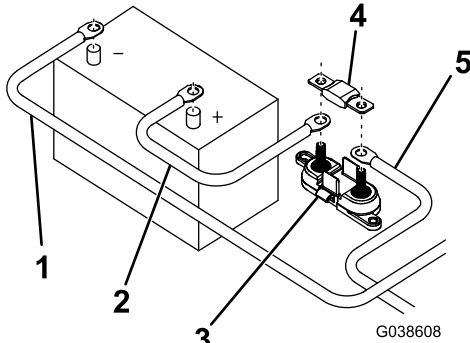

Figure 2
7. Connect the black power/ground extension cable to the negative (-) battery terminal (Figure 2).
12. Attach the fuse holder within 50 cm (20 inches) of the vehicle battery (Figure 2).
13. Connect the free end of the long battery extension cable to the fuse holder (Figure 2).
14. Connect the short battery extension cable to the other stud on the fuse holder (Figure 2).
15. Install the 150 A fuse (Figure 2).
16. Connect the remaining end of the short battery extension cable to the positive (+) battery terminal (Figure 2).